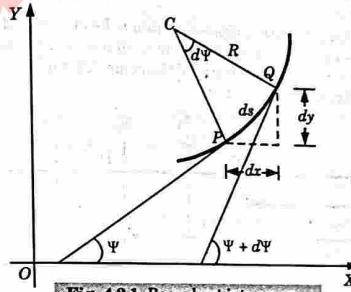

Fig. 4.2.1. Beam bent into an arc.
- Consider a small portion PQ of a beam, bent into an arc as shown in Fig. 4.2.1.